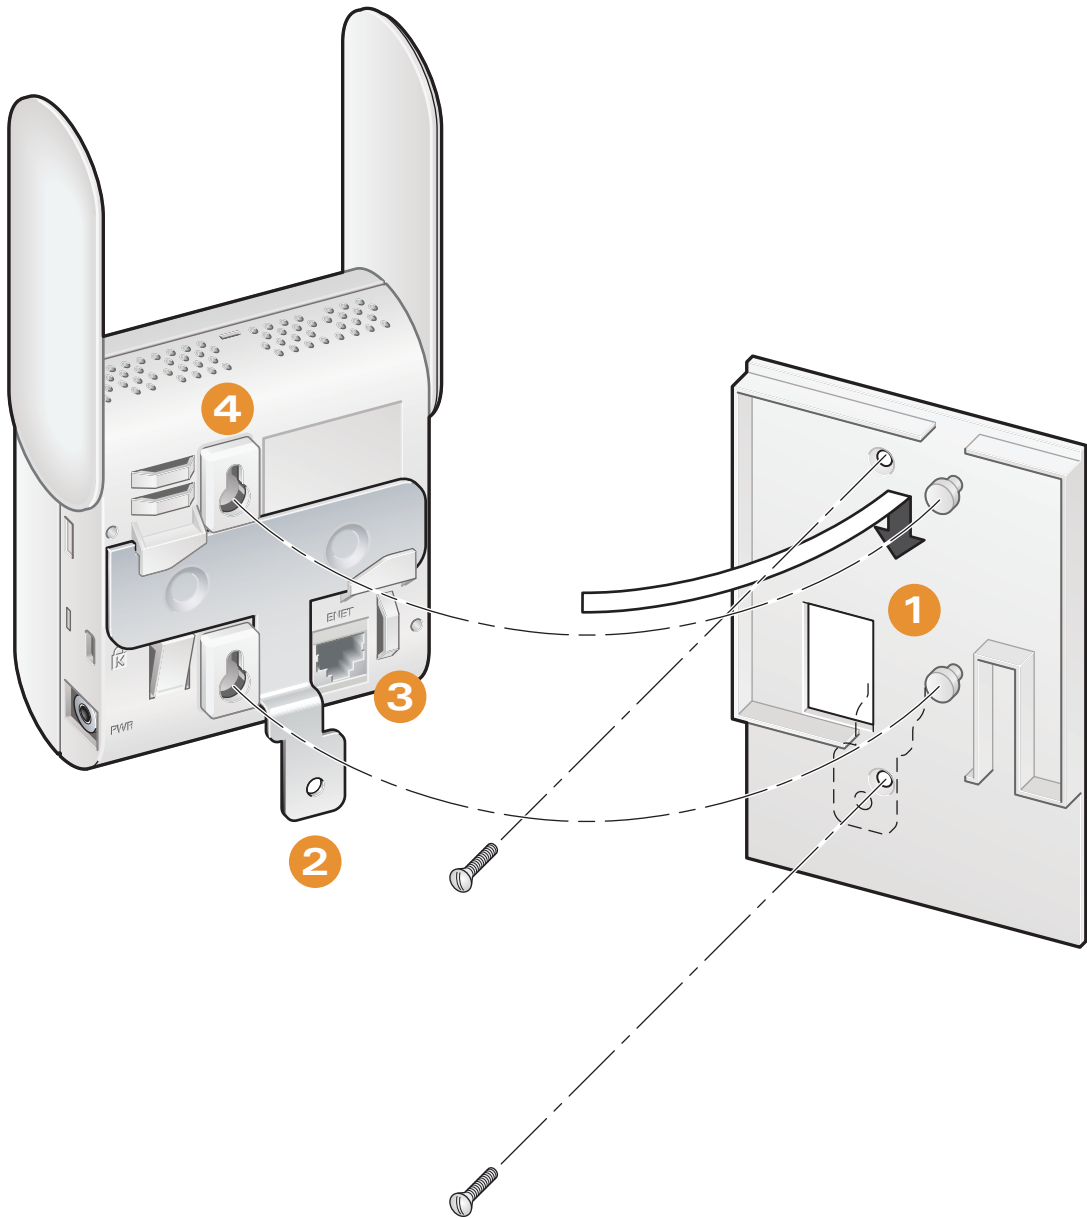

Figure 1 Wall mounting the AP 65
2. (Optional) Align and attach the AP security T-bar to the AP 65 as shown (see Figure 1).
4. Align the AP 65 with the mounting slots as shown in Figure 1. Push the AP onto the mounting tabs to secure the AP 65 in place.